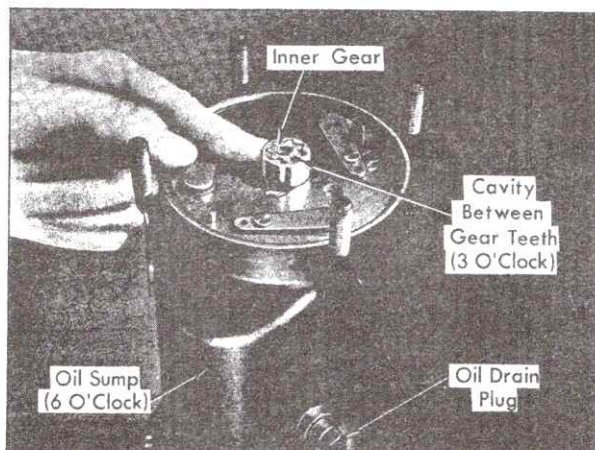

Fig. 1-70 Positioning Oil Pump Gears
19. Position outer oil pump gear over inner gear with previously applied identification mark up and, when standing facing oil sump, position outer gear so that it meshes with inner gear at the 9 o'clock position and cavity between gear teeth is at 3 o'clock position, Fig. 1-70.